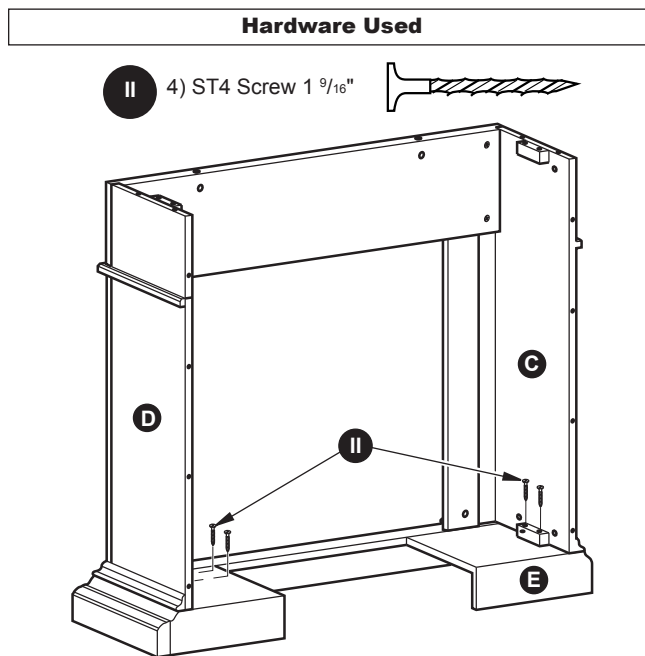

Figure 3
3. Fasten the wood support brackets attached to the Left Side (C) and Right Side (D) Panels with ST4Screw 1 9/16" (II) to the Base (E) as shown in Figure 3.